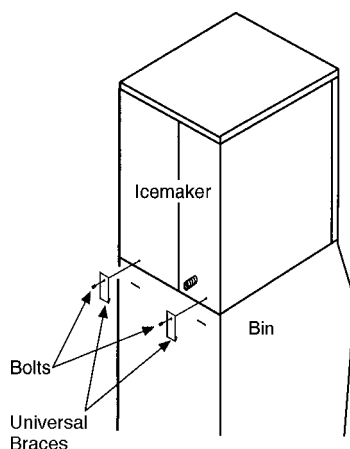

Fig. 2
- 4) Secure the icemaker to the Storage Bin by using the two Universal Braces and the two bolts provided. See Fig. 2.